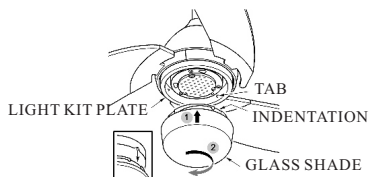

FIG.19
6. Attach the glass shade by locating tabs in light kit with grooves on the light shade and twist clockwise until tight (see Fig.19)